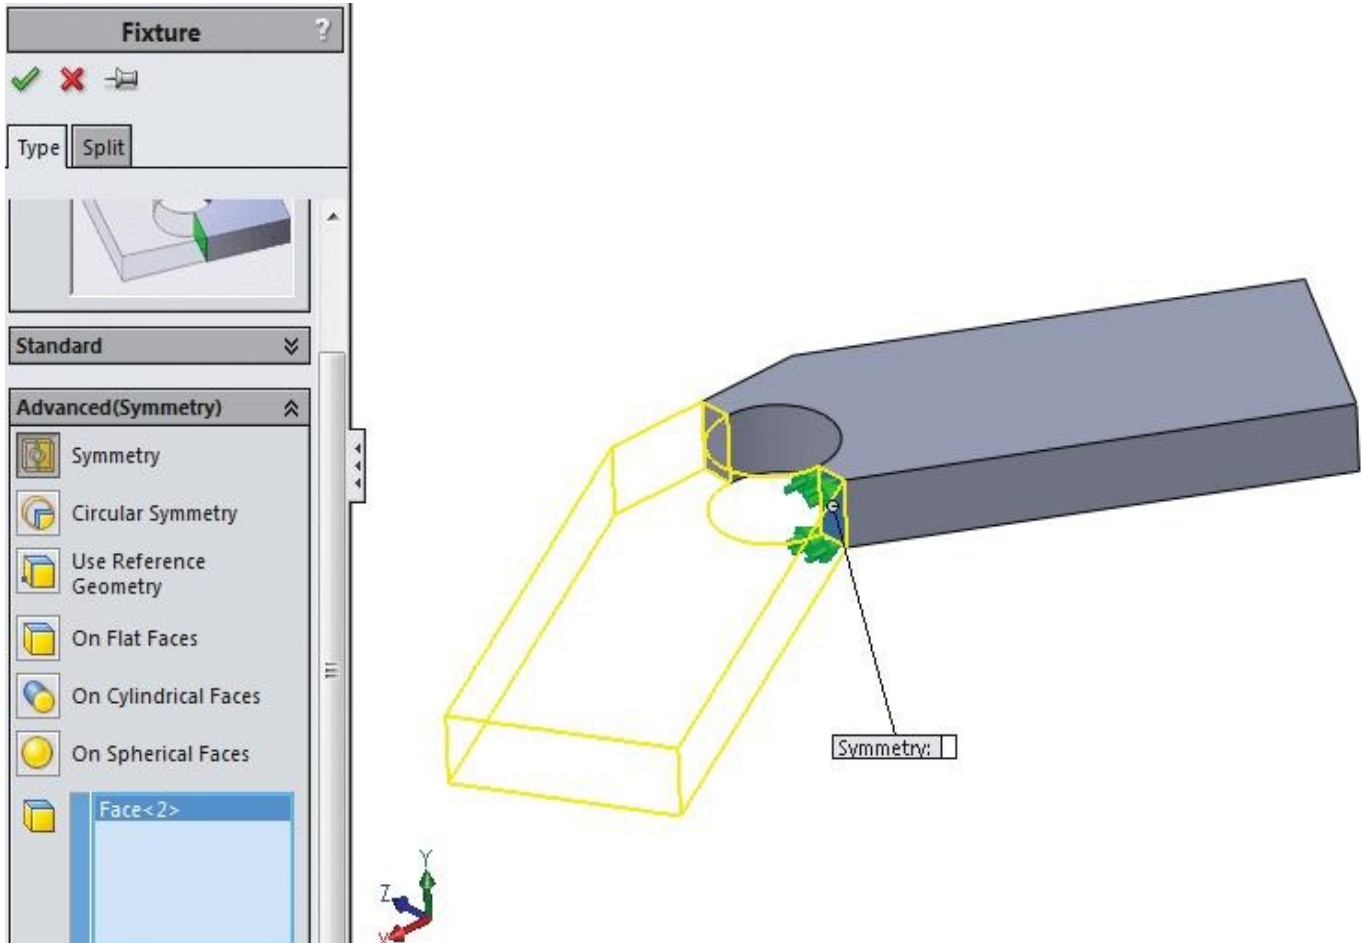

Figure-25. Symmetric fixture application
- Select the face that is symmetric half or quarter of the main part. Refer to Figure-25. Note that the model displayed in the figure is having a center line in its sketch and about it the object is mirrored.